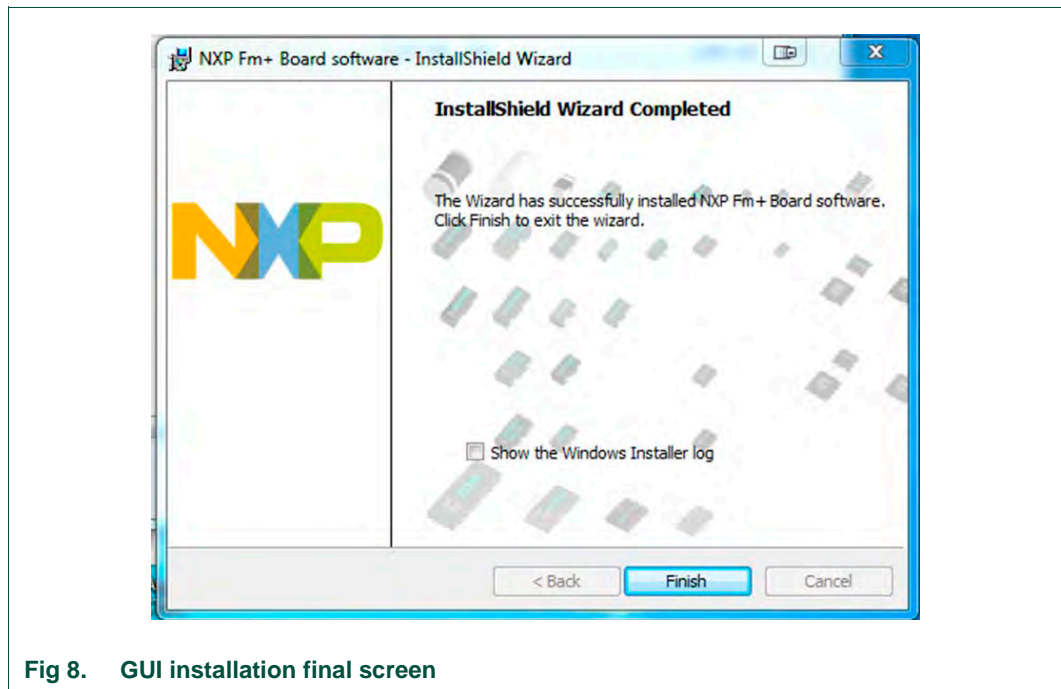

Fig 8. GUI installation final screen
8. When the install is complete, click finish on the final screen, Fig 8.